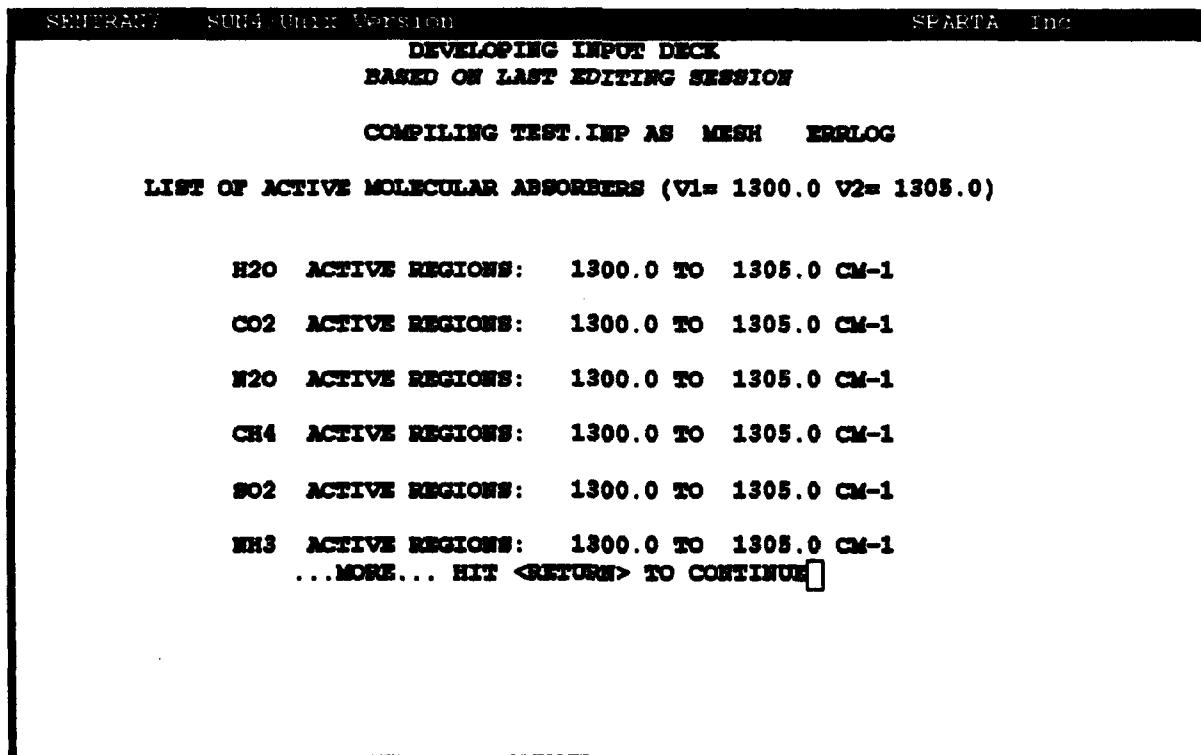

Figure 57. Example of the On-Line Feedback Provided While SENTRAN7 Compiles the User Specified Input Cards
- 19) SENTRAN7 then displays a screen similar to the one shown in Figure 57, while it compiles the input cards. The active molecular absorbers in the selected spectral range will be displayed. If the list of absorbers fills more than one screen, the message displayed at the bottom of Figure 57 will be shown.